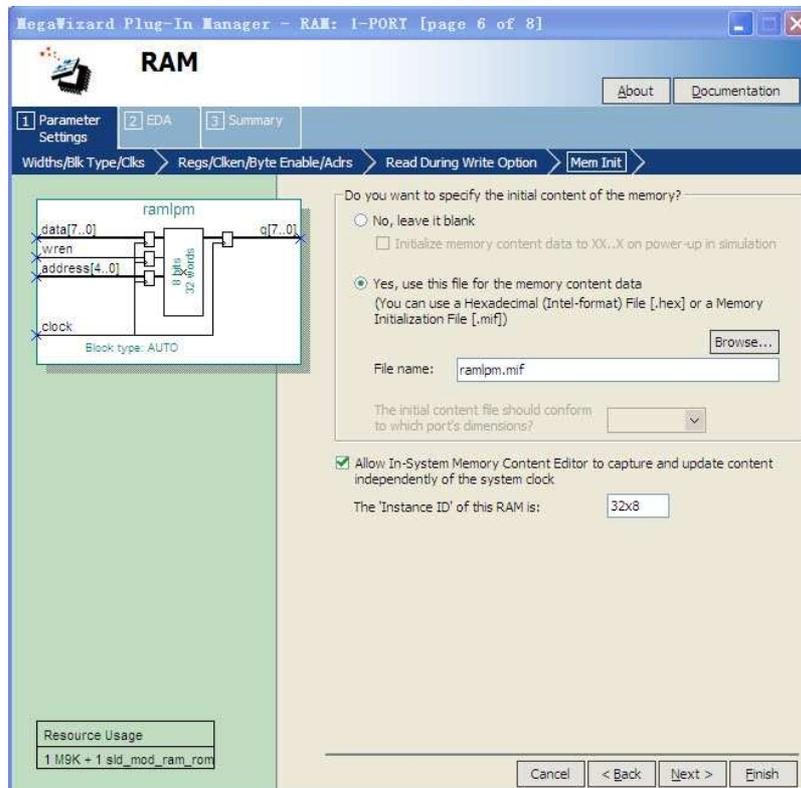
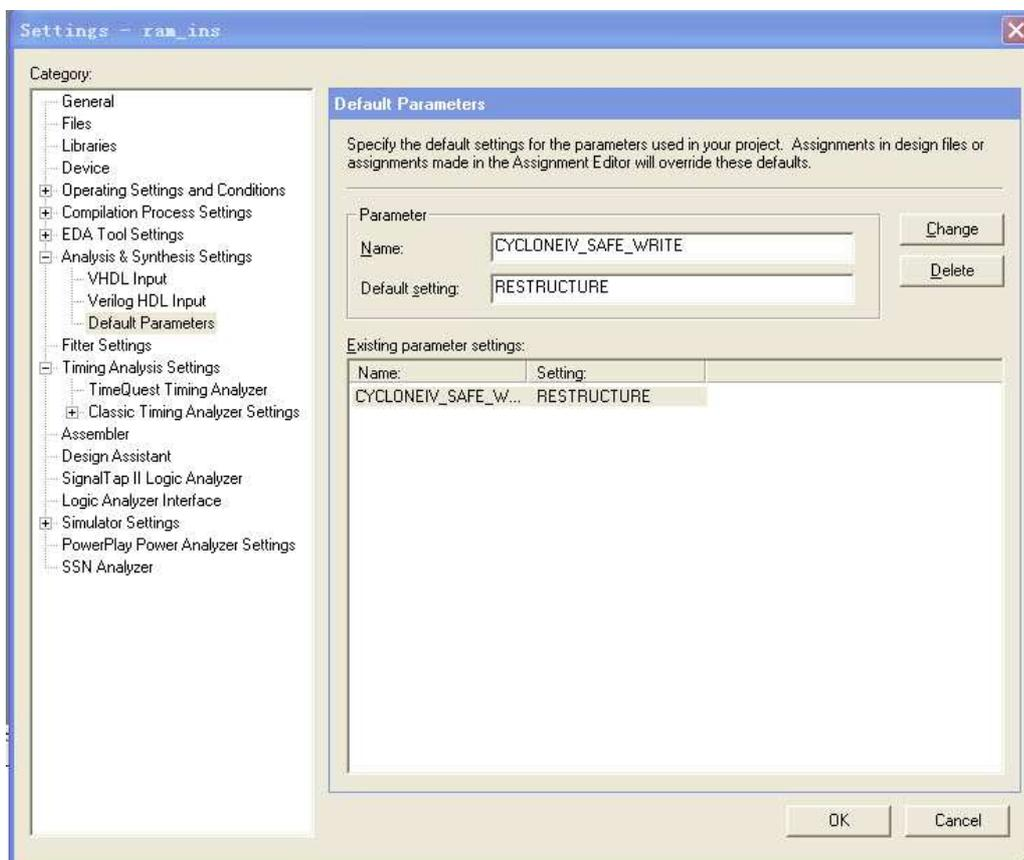

Figure 6. Configuring *RAM:1-PORT* for use with the In-System Memory Content Editor.
Figure 7. Setting the `CYCLONEIV_SAFE_WRITE` parameter.
1. Create a new Quartus II project for your circuit, and use the MegaWizard Plug-in Manager to again create a single-port version of the RAM:1-PORT LPM. For Pages 1 to 6 of the Wizard use the same settings as in Part I. On Page 6, shown in Figure 6, specify the ram1pm.mif file as you did in Part V, but also make the setting Allow In-System Memory Content Editor to capture and update content independently of the system clock. This option allows you to use a feature of the Quartus II CAD system called the In-System Memory Content Editor to view and manipulate the contents of the created RAM module. When using this tool you can optionally specify a four-character 'Instance ID' that serves as a name for the memory; in Figure 7 we gave the RAM module the name 32x8. Complete the final steps in the Wizard.
3. Before you can use the In-System Memory Content Editor tool, one additional setting has to be made. In the Quartus II software select Assignments > Settings to open the window in Figure 7, and then open the item called Default Parameters under Analysis and Synthesis Settings. As shown in the figure, type the parameter name `CYCLONEIV_SAFE_WRITE` and assign the value `RESTRUCTURE`. This parameter allows the Quartus II synthesis tools to modify the single-port RAM as needed to allow reading and writing of the memory by the In-System Memory Content Editor tool. Click OK to exit from the Settings window.